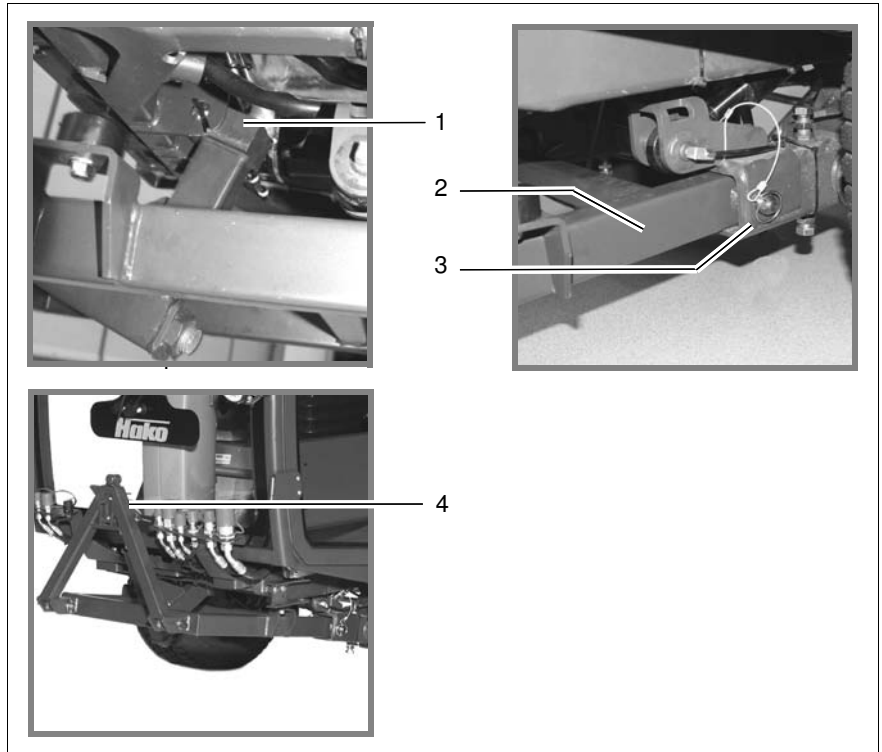

Fig.41
- Attach the upper link (Fig. 41/1) into the vehicle frame and secure it with locking bolt and linchpin.
- Insert the frame (Fig. 41/2) of the front coupling triangle in the adapters (Fig. 41/3) and secure them with locking bolts and linchpins.
- Insert the upper link in the front coupling triangle (Fig. 41/4) and secure it with a locking bolt and linchpin.